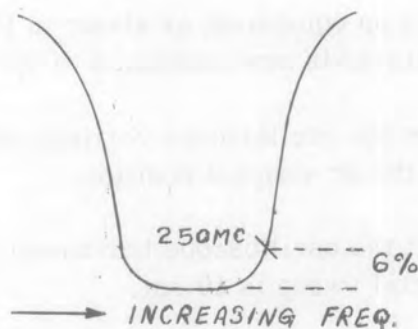

Figure 5-9. Type 501 Receiver Typical Response Curve, V502 to V503 Interstage Alignment, Receiver Dial at 250 mc, Bottom Cover On
(4) Set the oscilloscope vertical sensitivity to 10 mv per cm and the vertical input to the ac-coupled position.
(5) Set the oscilloscope horizontal sensitivity so that the total trace of the horizontal sweep is 10 cm.
(6) Set the receiver dial to 250 mc and sweep generator to a 250-mc center frequency.
(7) Using a calibrated 250-mc marker from the Hewlett-Packard 608D signal generator as a marker, adjust C518, C525, and C528 for a symmetrical flat-topped response with the 250-mc marker appearing 6% down on the higher frequency slope as shown in Figure 5-9.